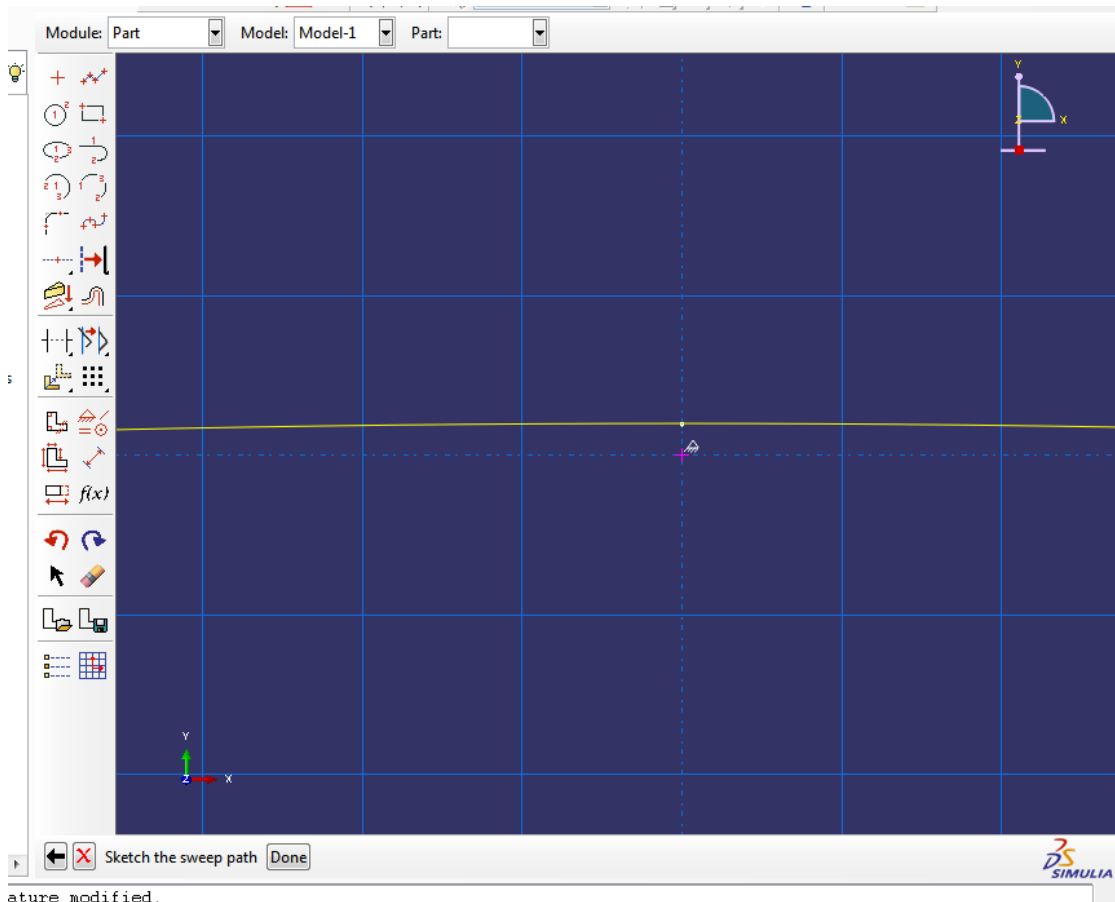

Figure 2. Sketch area after performing step 1.c.
- c. Click **Add Constraint**. Choose **Fixed**. Using the mouse, select the two end points and the point at 0,0 and press **Done**. Press **Done** again. Close the **Add Constraints** menu. Your sketch area should now look similar to Figure 2 (depending on your degree of zoom).